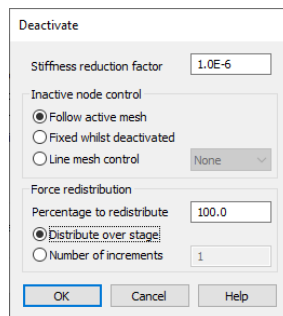

Figure 39: Set custom deactivation values
- Click on the **Distribute over stage** radio button and **OK**. (Figure 39)